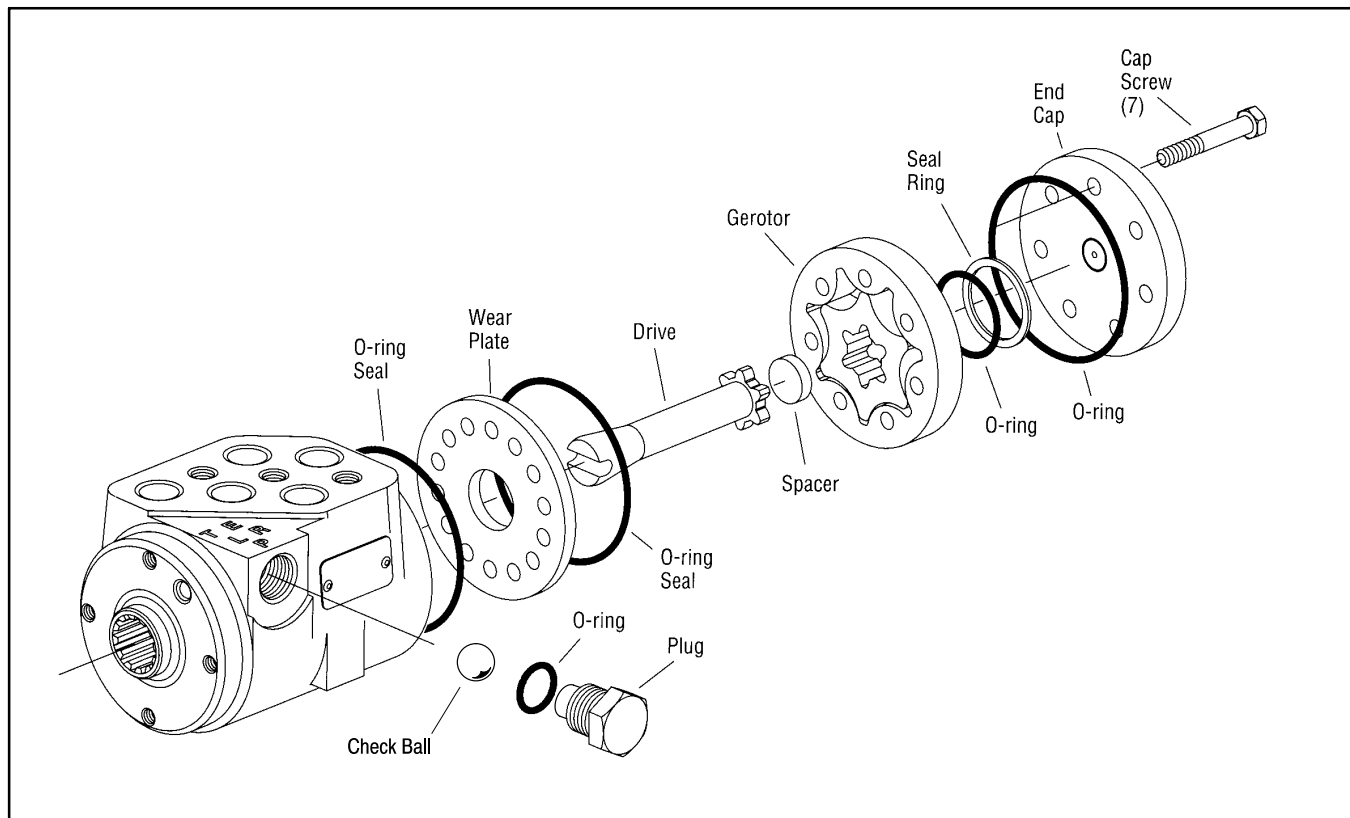

Figure 21
1. Remove the seven capscrews and disassemble the steering control unit as shown (Fig. 21).